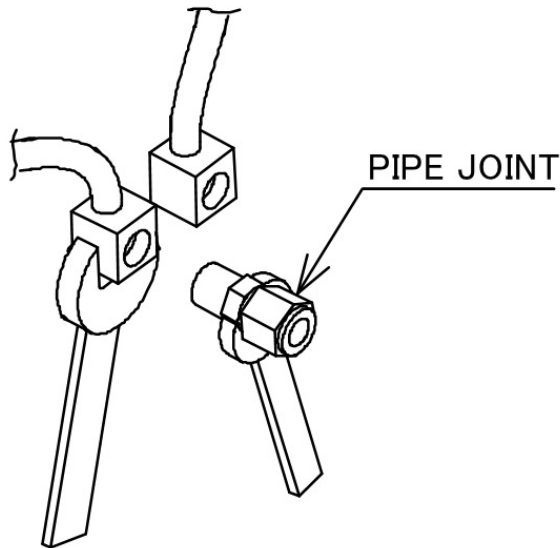

Fig. 5-6 Cooling Water Piping Connection
The center of gravity of the pump is indicated in Fig. 5-6. Be sure that the pump does not move or fall down during installation or storage.
Connect cooling water pipes to these pumps. When connecting the cooling water pipes, screw the pipe joint while also holding the nozzle of the pump with a spanner in order to avoid deforming the cooling water pipe, as illustrated in Fig. 5-6.
- (1) When using, as a backing vacuum pump, a vacuum pump with no check mechanism (backstream flow prevention) such as dry vacuum pump, etc., install a forevacuum valve between the turbo molecular pump and the backing vacuum pump to prevent rapid inverse flow of exhausted gas. And close the forevacuum valve before the backing vacuum pump stops (Refer to Fig. 5-6).
- (2) Even when "ALARM" signal is emitted, don't cut off the controller while "ROTATION" signal is being emitted. Even when ALARM lamp lights, don't cut off the controller while ROTATION lamp lighting.
- (3) If "ALARM" signal is emitted or ALARM lamp lights, shut down the backing vacuum pump or close the forevacuum valve immediately. Furthermore, when main valve is installed between the turbo molecular pump and the vacuum chamber, close this valve, too.
- (4) Provide a flowmeter on the downstream of cooling water line, otherwise the turbo molecular pump will shut down and otherwise set up the interlock which the pump cannot start against cut off of water supply.